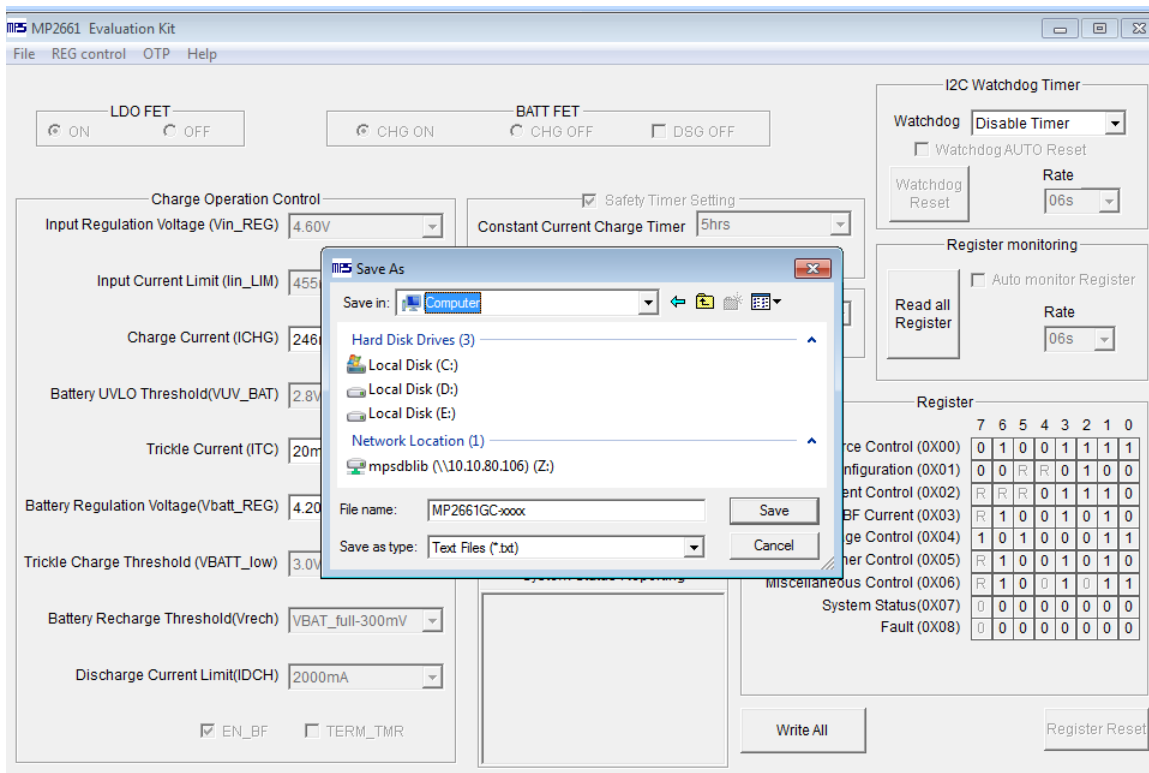

Figure 11: Various Export Locations Available
6. Find a location for the exported file and click “Save”. Your configurations will be saved in a text file (see Figure 11).